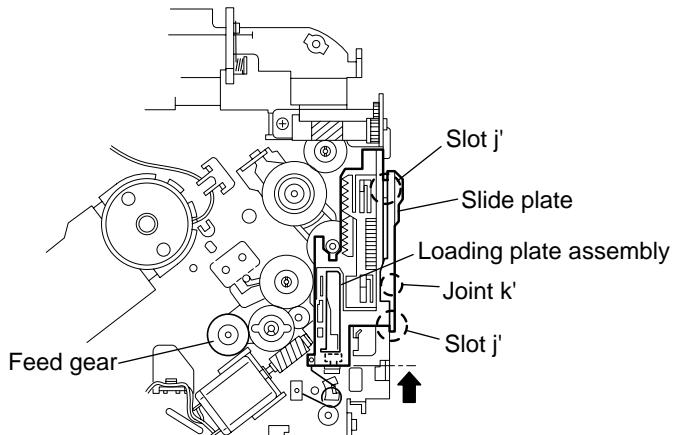

Fig.33
■ Removing the gears (See Fig.33 to 36)
- Pull out the loading gear (2) and remove the change lock lever.
- Remove the E-washer and the washer attaching the changer gear (2).
- The changer gear (2), the changer gear spring and the adjusting washer come off.
- Remove the loading gear (1).